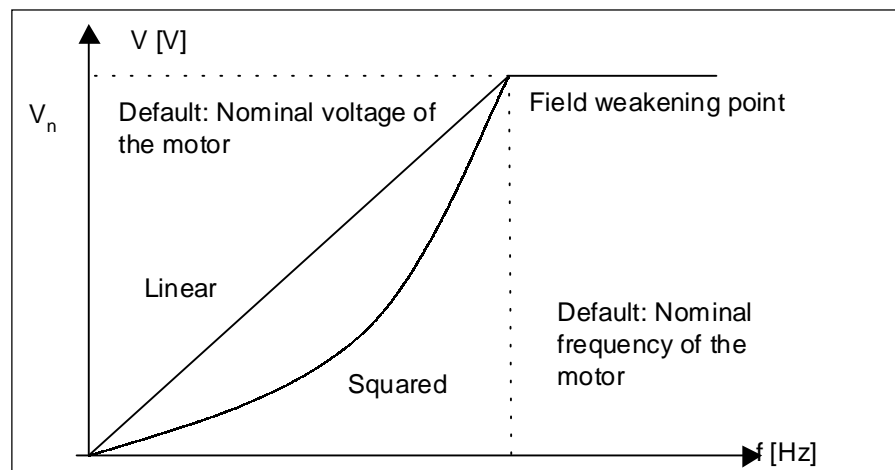

Figure 3.4-1 Linear and squared V/Hz curves.
**Linear:** The voltage of the motor changes linearly with the frequency in the constant flux area from 0 Hz to the field weakening point (par. 6. 3) where a constant voltage (nominal value) is supplied to the motor. See figure 3.4-1.
**Squared:** The voltage of the motor changes following a squared curve form with the frequency in the area from 0 Hz to the field weakening point (par. 6. 3), where the nominal voltage is supplied to the motor. See figure 3.4-1.